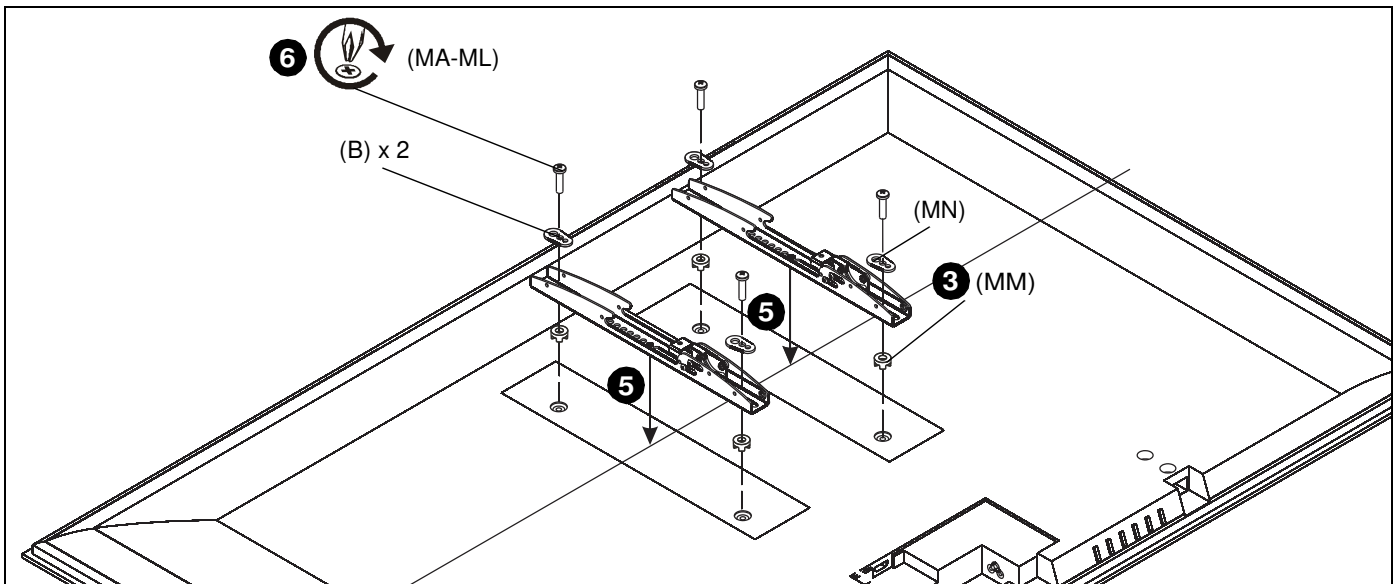

Figure 5
2. Select screw *diameter* by examining hardware (MA-ML) (4mm, 5mm, 6mm or 8mm) and comparing with mounting holes on display. (See Figure 5)
3. Select spacers: (See Figure 5)
- If mounting holes are not recessed and both uprights (B) can lay flat against display, then no spacers are required.
- If mounting holes are recessed, or if protrusions prevent uprights (B) from laying flat, then spacers (MM) must be used.
4. Select screw *length*: (See Figure 5)
- Using your hand, insert **SHORTEST** length screw of selected diameter (MA, MD, MG or MJ) through universal washer (MN), uprights (B),
- NOTE:** Universal washers (MN) are not needed if using M8 button head cap screws (MJ, MK or ML).
5. Place uprights (B) on display, ensuring: (See Figure 5)
- Center of uprights (B) are as close to the center of the back of display as possible after being installed. Center of bracket is indicated by the diamond-shaped hole.
6. Use selected screws and spacers to install two interface uprights (B) to back of display. (See Figure 5)